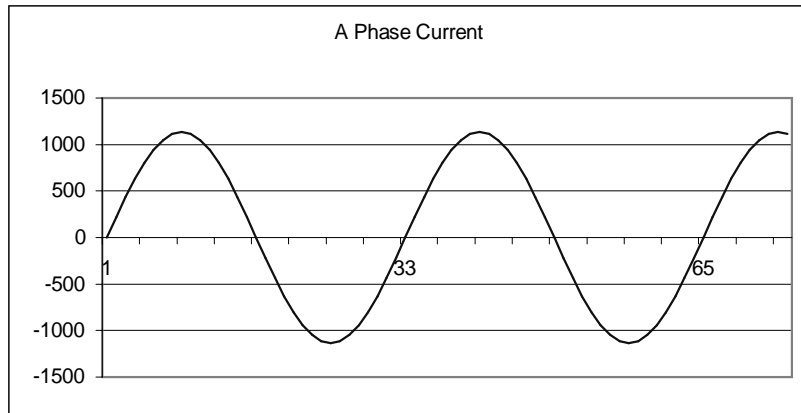

Figure 1.10: Nondistorted Current Waveform
- Harmonic distortion is primarily the result of high concentrations of non-linear loads. Devices such as computer power supplies, variable speed drives and fluorescent light ballasts make current demands that do not match the sinusoidal waveform of AC electricity. As a result, the current waveform feeding these loads is periodic but not sinusoidal. Figure 1.10 shows a normal, sinusoidal current waveform. This example has no distortion.
- Figure 1.11 shows a current waveform with a slight amount of harmonic distortion. The waveform is still periodic and is fluctuating at the normal 60 Hz frequency. However, the waveform is not a smooth sinusoidal form as seen in Figure 1.10.